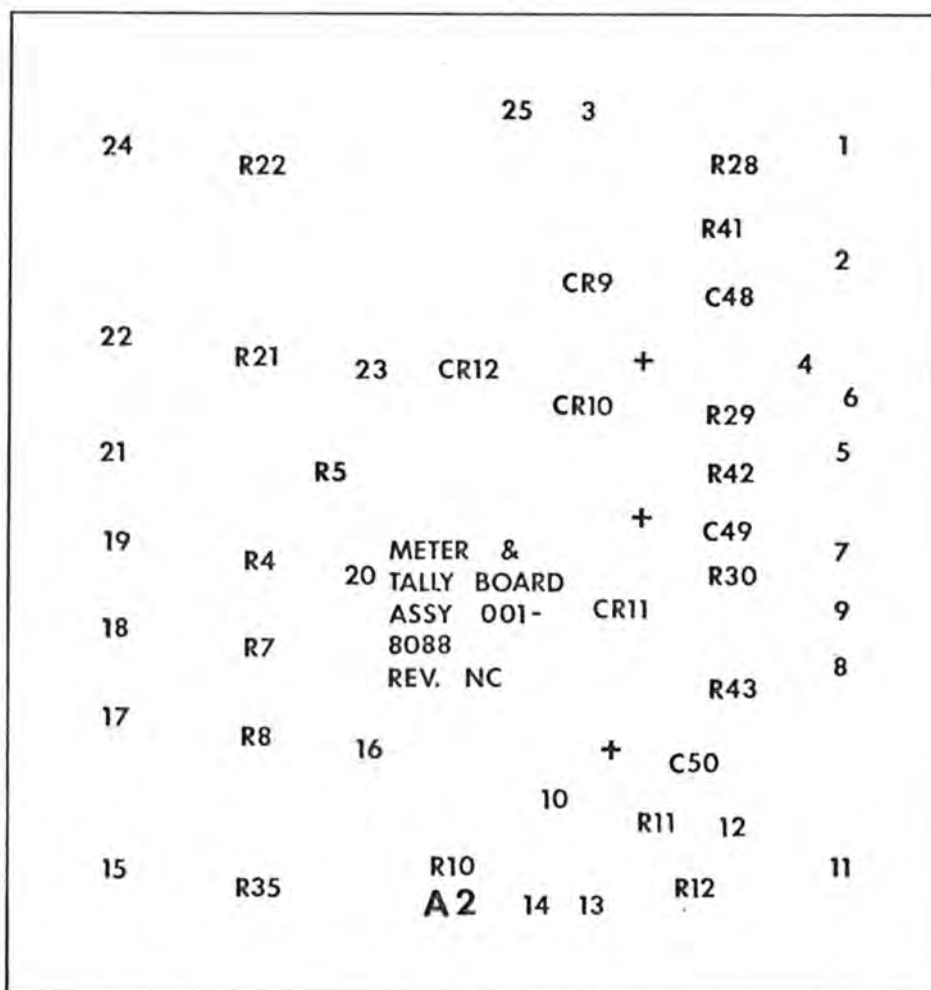

Figure 6-6. Meter and Tally Board Assembly (A2)
- f. Rotate MULTIMETER selector S3 to FINAL FIL VOLTS. Adjust potentiometer R10 (figure 6-6) for an indication of exactly 5.0 on MULTIMETER M1.